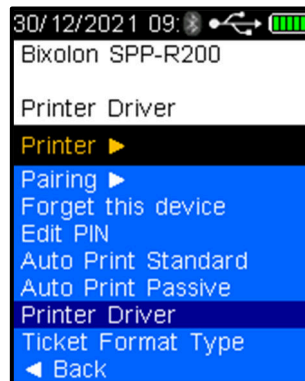

Figure 42 - Printer Driver Selected
- Press the Down button and scroll down to *Printer Driver* (Refer to Figure 42).